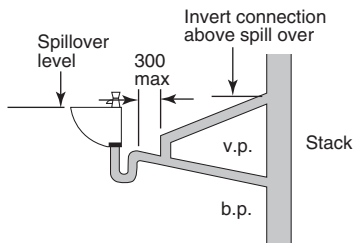

Figure 7.8 Branch ventilation pipes 'rules'
- The branch vent pipe must not be connected to the discharge stack below the spillover level of the highest fitting served (see Figure 7.8)